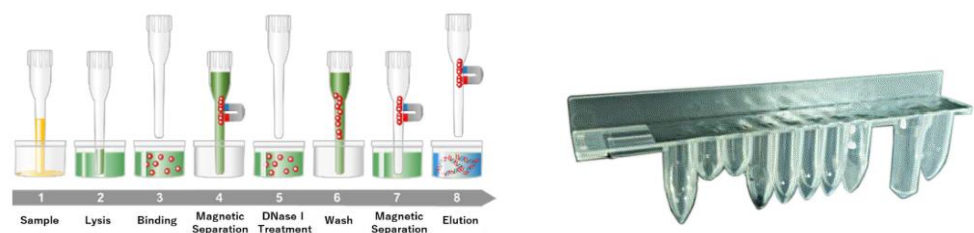

Figure 1.5: RNA extraction principle and ELITE InGenius SP RNA extraction cassette
- The reagent set has been optimized for the isolation of nucleic acids from 0.2 mL samples. (Figure 1.5: ELITE InGenius – SP RNA Extraction cassette and extraction principle).